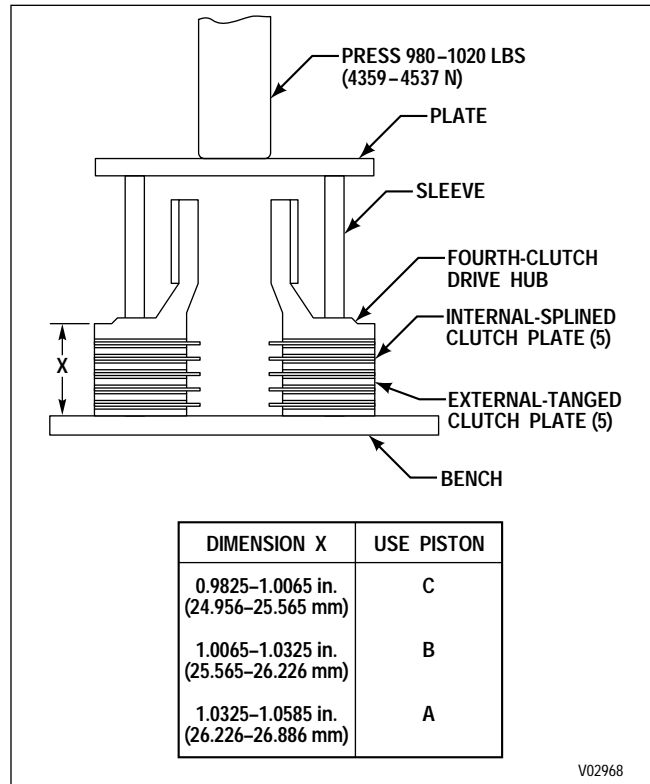

Figure 6-62. Determining Forward Clutch Piston Thickness (Models Not Using a Wave Plate)
(1) Stack the forward clutch plates and fourth clutch hub as shown in Figure 6-62 or 6-63.
(2) Apply the specified load, and measure Dimension X.
(3) From the applicable table in Figure 6-62 or 6-63, select the forward clutch piston. Use the parts measured, and the selected piston, in the forward clutch assembly (Paragraph 6-10a).